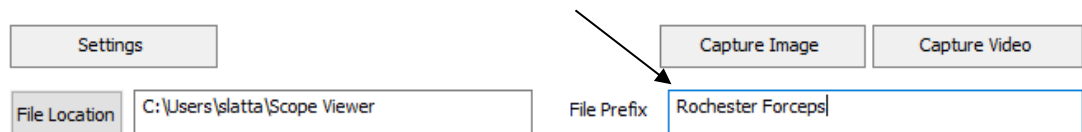

Figure 7
2. Enter the characters that you would like to be included in the file name. (Fig 7).